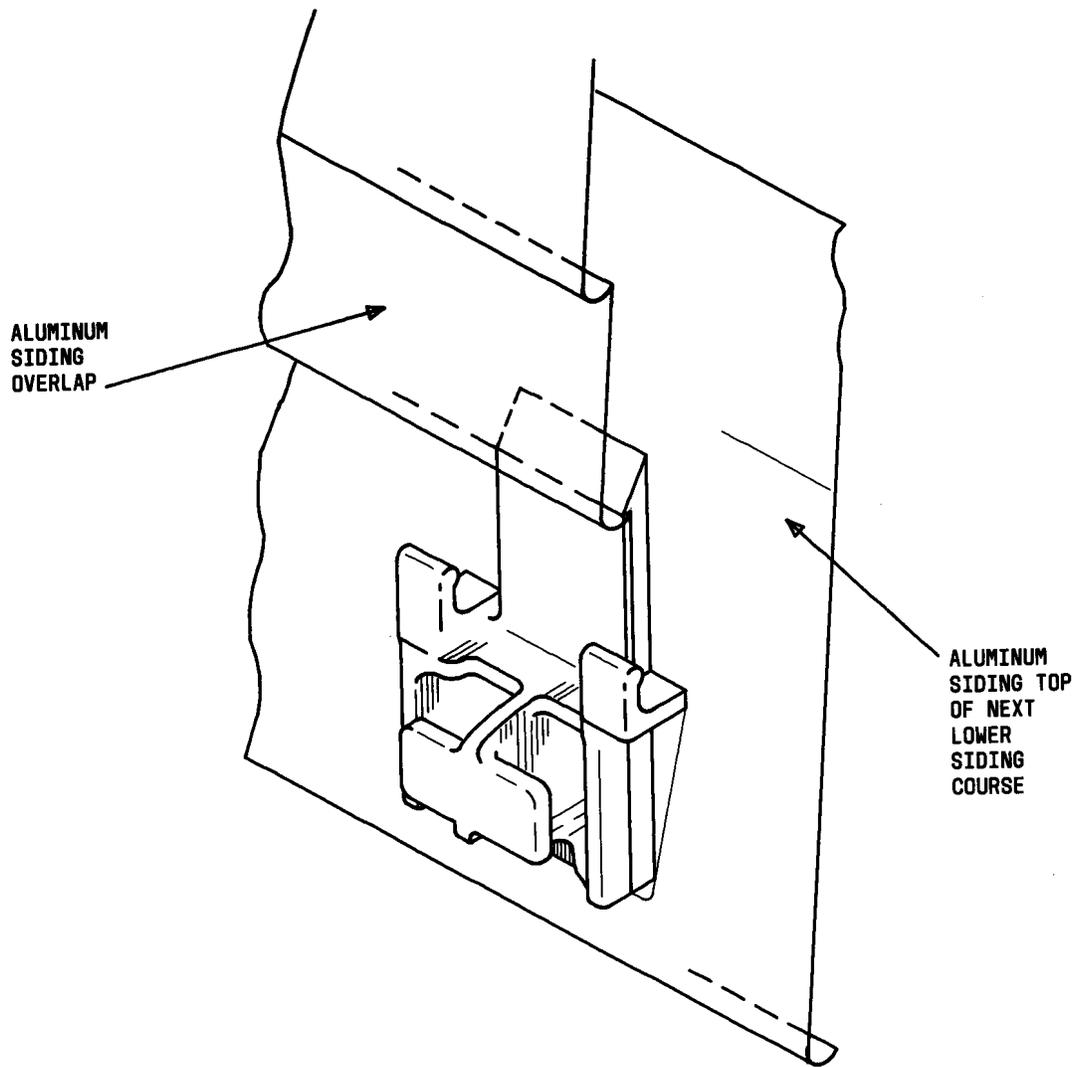
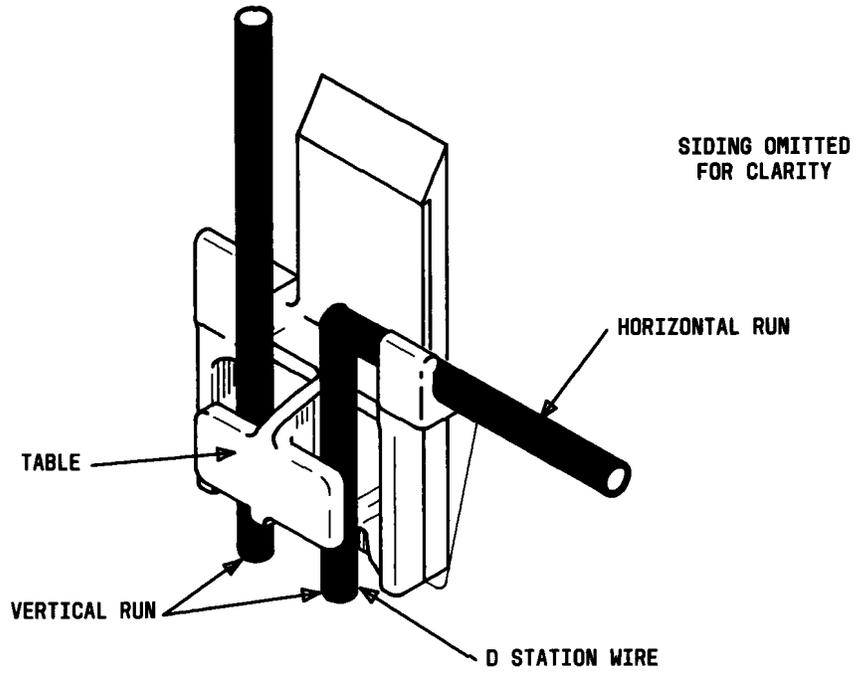

Fig. 2—Cutaway View of B Siding Clip Inserted Under Aluminum Siding Joint
Fig. 3—B Siding Clip With D Station Wire
- 2.02 The B siding clip can be fastened to the aluminum siding by sliding the wedged portion of the clip between the overlapping aluminum siding (Fig. 2). The clip can be used for either horizontal or vertical runs of drop wire or station wire or a combination of both (Fig. 3 through 6).